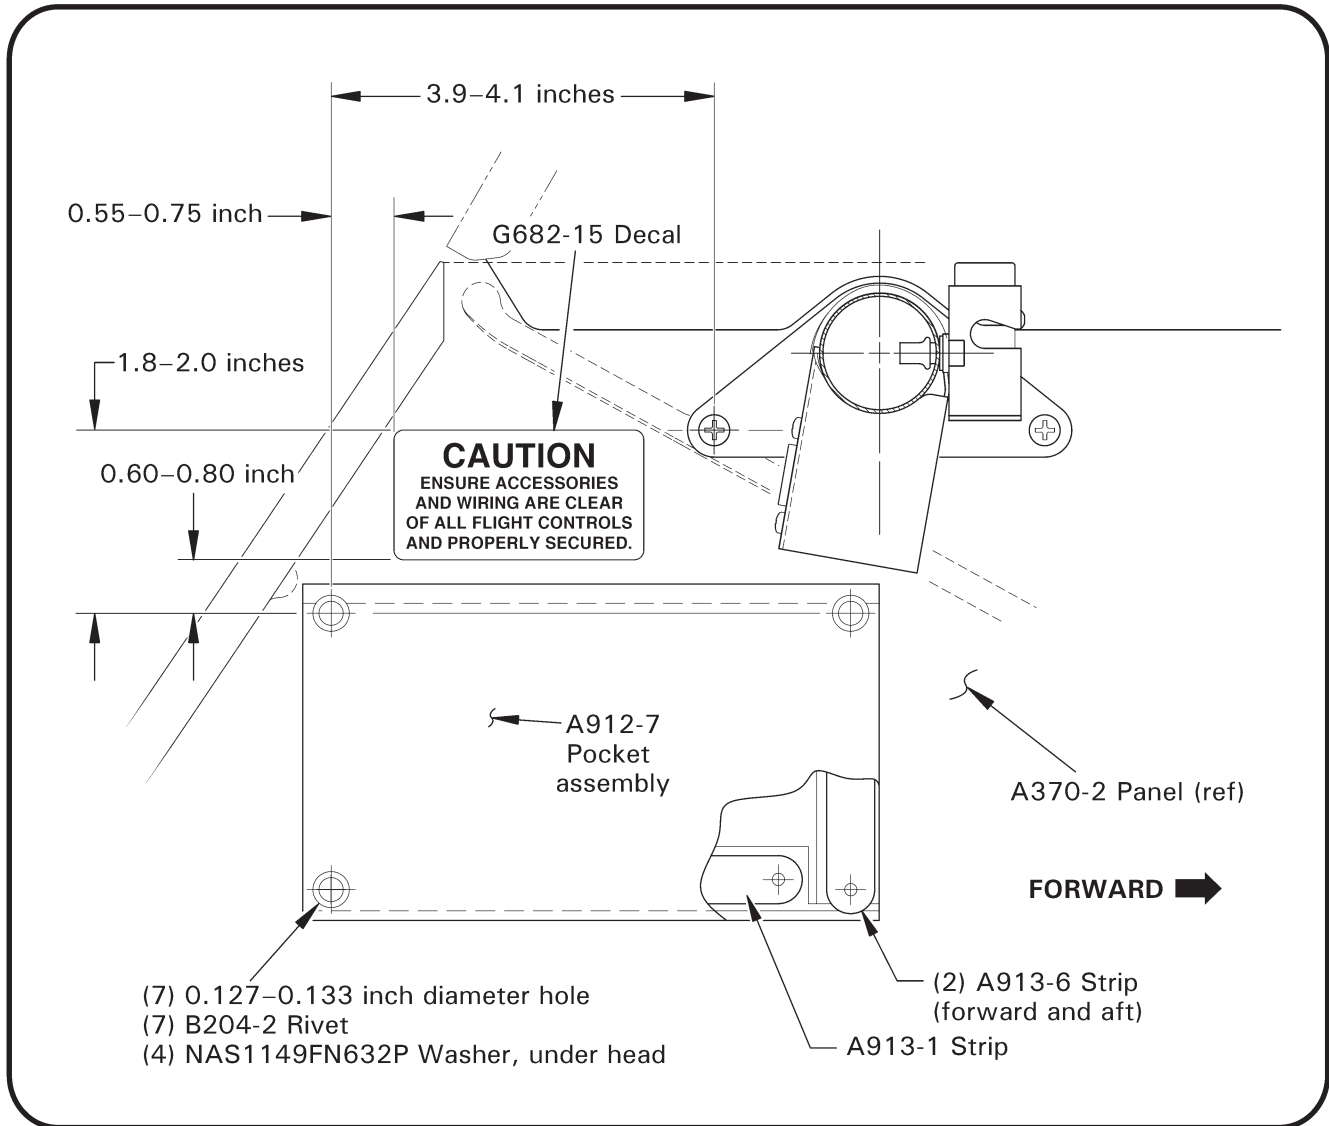

FIGURE 3 Pocket assembly installation
11. Refer to Figure 3. Lay out upper-aft hole location for A912-7 pocket assembly, ensuring location will not interfere with right hand flange of avionics face. Then, using pocket and A913-1 & A913-6 strips as templates, lay out remaining (6) holes. As required, adjust hole locations within limits so edge or flange of any installed internal stiffener(s) will not be damaged during drilling. With strips as guides and using a drill stop, progressively match drill and install a cleco in (7) 0.128 inch diameter holes.
13. Refer to Figure 3. Install A912-7 pocket assy:
- With pocket hanging upside down & woven fabric facing outboard, attach pocket flap to A370-2 panel with A913-1 strip and (3) B204-2 rivets. Pocket may be pierced as required with awl.
- Fold pocket's aft, vertical edge inboard around one A913-6 strip and install (2) B204-2 rivets & (2) NAS1149FN632P washers (under both rivet heads) thru folded pocket & strip into panel.
- Fold pocket's forward, vertical edge inboard around remaining A913-6 strip and install (2) B204-2 rivets & (2) NAS1149FN632P washers (under both rivet heads) thru folded pocket & strip, into panel.
- Affix G682-15 "CAUTION..." decal on panel immediately above pocket as shown in Figure 3.